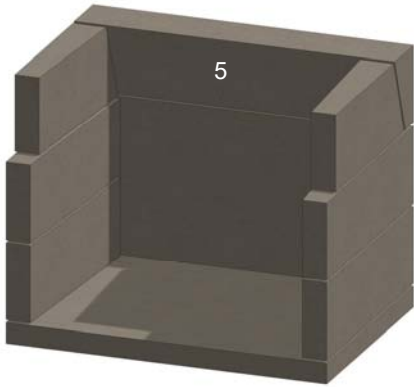

Figure 13. Back Header
G. Install Back Header (5). See Figure 13.